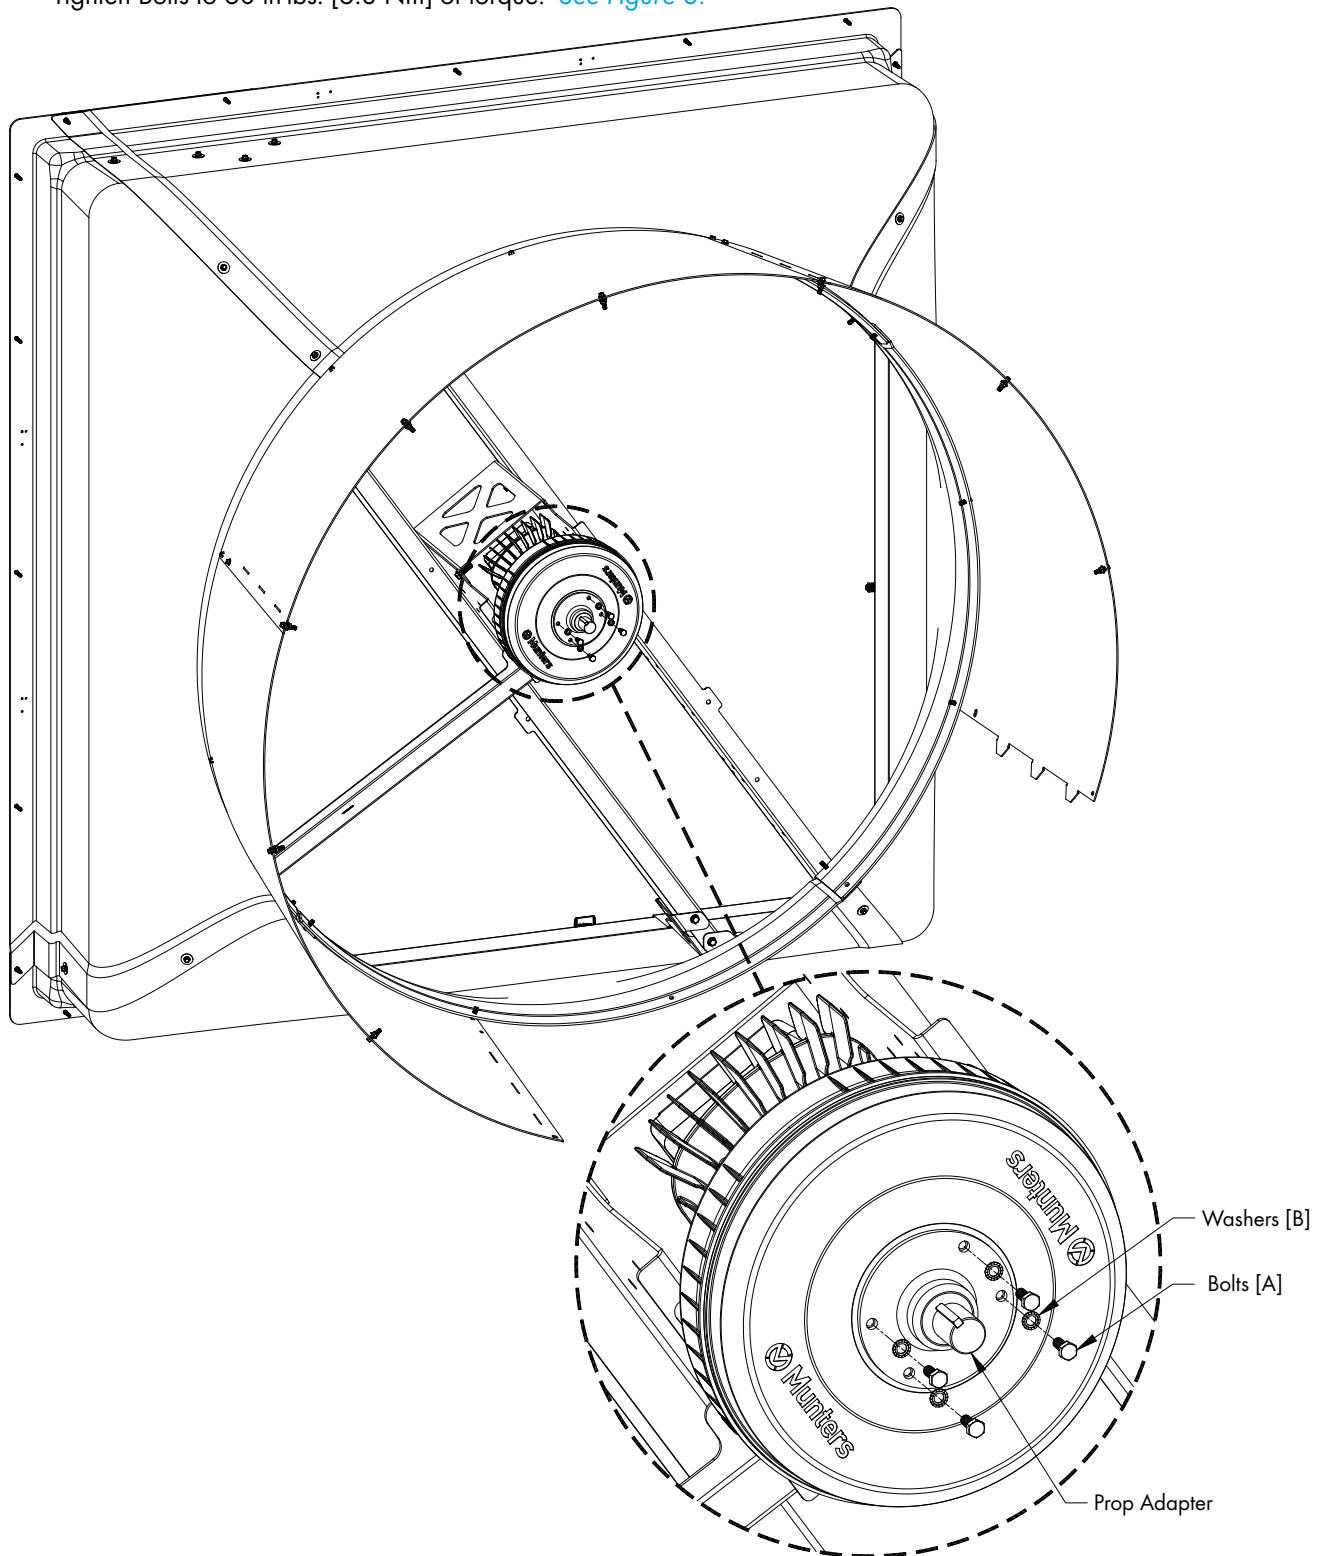

Figure 8
Attach the Prop Adapter removed in Step 5 to new Motor/Drive using (4) new Bolts [A] and Star Washers [B]. Tighten Bolts to 60 in-lbs. [6.8 Nm] of torque. See Figure 8.